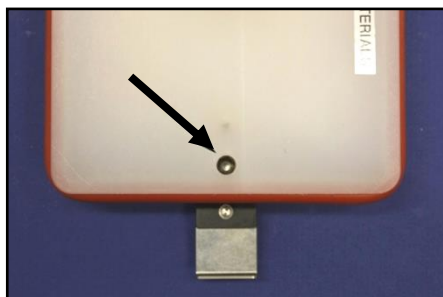

Figure 2. Bottom set screw.
1. To raise the clip, adjust the set screw located on the bottom of the Block (Figure 2) in the clockwise direction.
2. To lower the clip, adjust the set screw located on the bottom of the Block (Figure 2) in the counterclockwise direction.